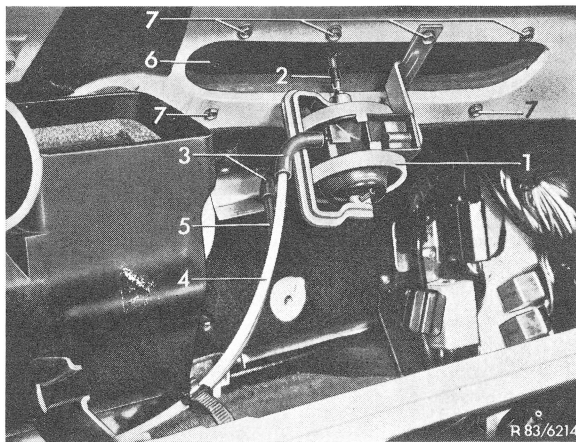

Figure 1
- 7 Introduce return air flap through air inlet duct and screw on by means of hex. head sheet metal screw (7) together with vacuum element (1).
- 9 Connect vacuum lines (4 and 5) to vacuum element (1) (Fig. 1).